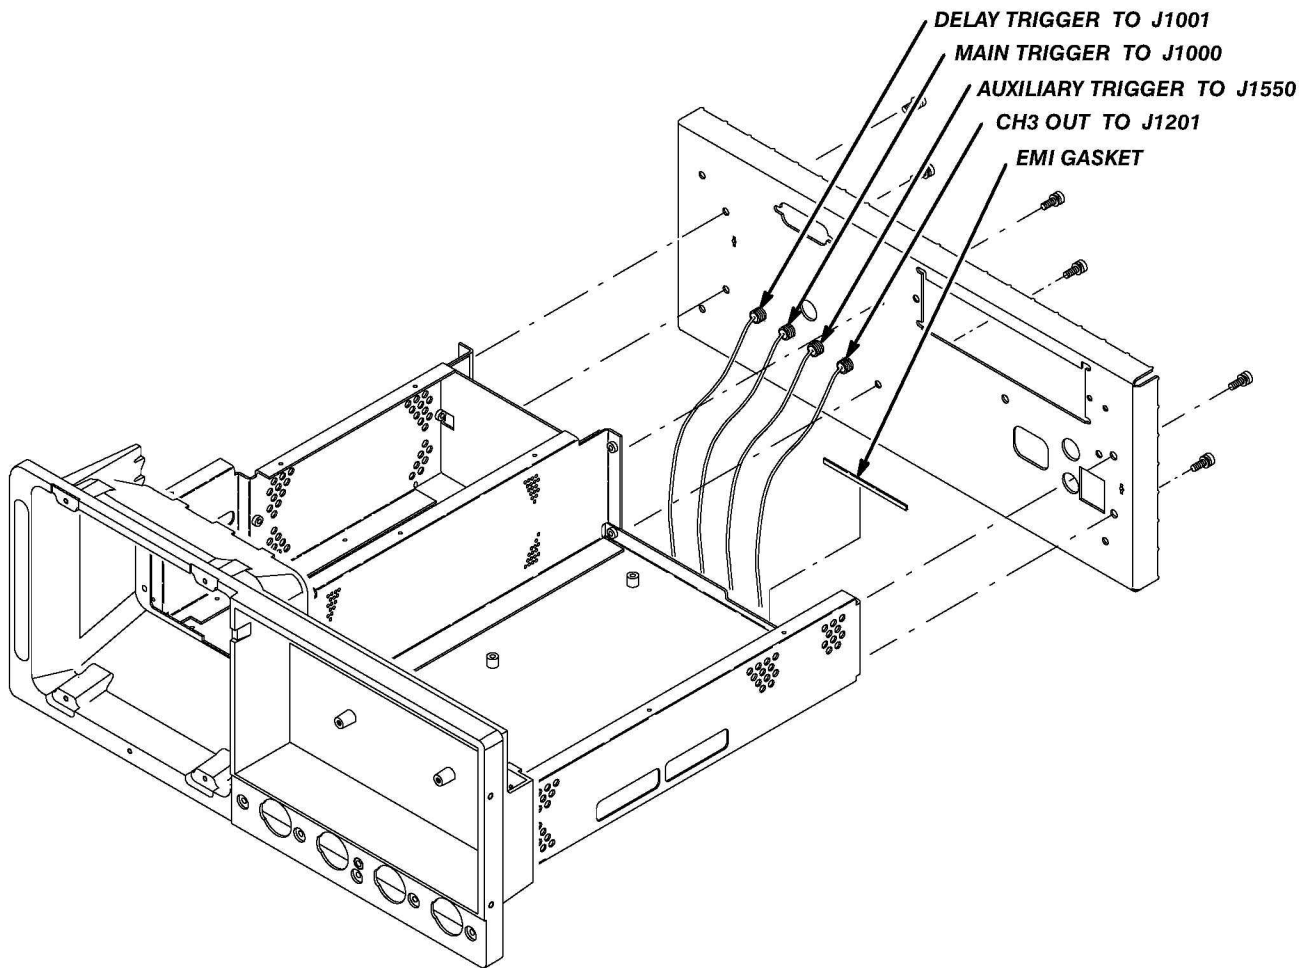

Figure 6-23: Rear Chassis Removal
3. *Remove the rear chassis:* Use Figure 6-23 as a guide when doing the following substeps: